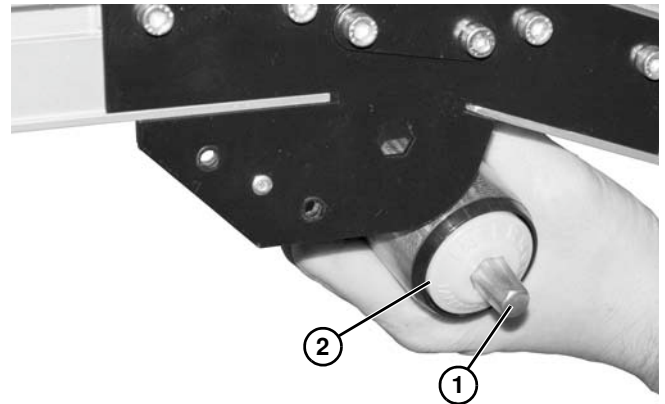

Figure 80
- b. For 5" (127 mm) or wider conveyor, push spring-loaded shaft ends (**Figure 80, item 1**) inward. Install roller (**Figure 80, item 2**).